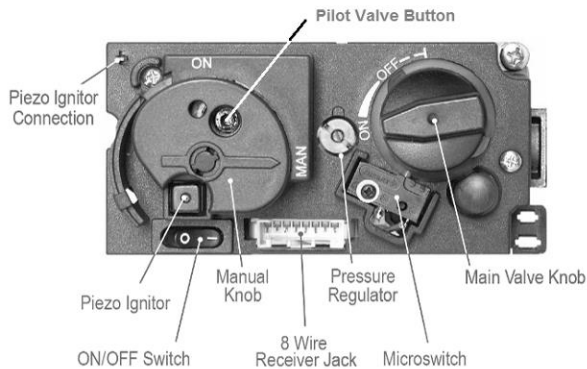

Figure 19 – GV60 Valve Configuration (Top)
4. Locate and turn the MANUAL Knob on the valve clockwise to the "MAN" position (see figure 19).
8. Once the pilot lights, continue holding the Pilot Button for one (1) minute. Release the Pilot Button and the pilot flame should remain on.